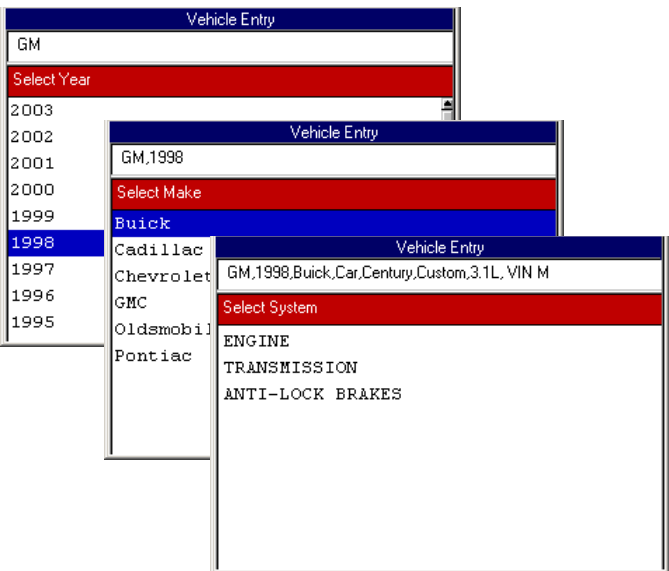

Figure 3.3: Series of Vehicle Entry Screens
- 4 On each screen that appears (Figure 3.3), **select the correct option** and then press the **ENTER** key. Do this until the vehicle is completely identified and the main menu screen reappears with the entire vehicle description in the top part of the screen.